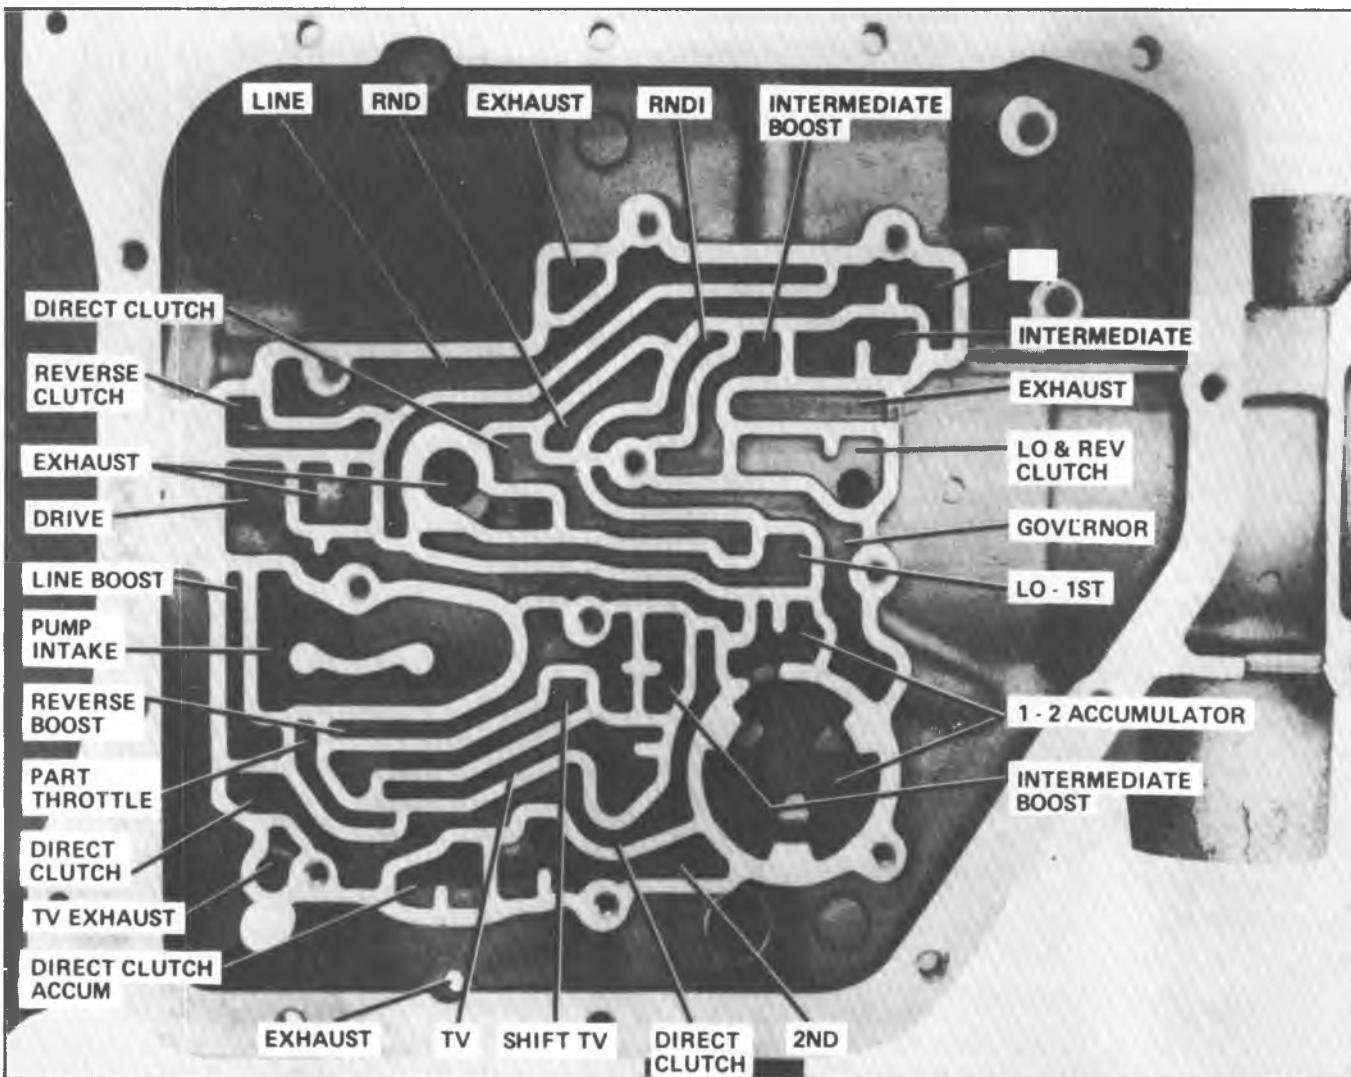

Fig. 7A-49A--Oil Passages - Bottom of Case
6. Using 10mm (3/8") rod, install new parking pawl shaft cup plug, open end out, past retaining pin hole (Fig. 7A-55A).